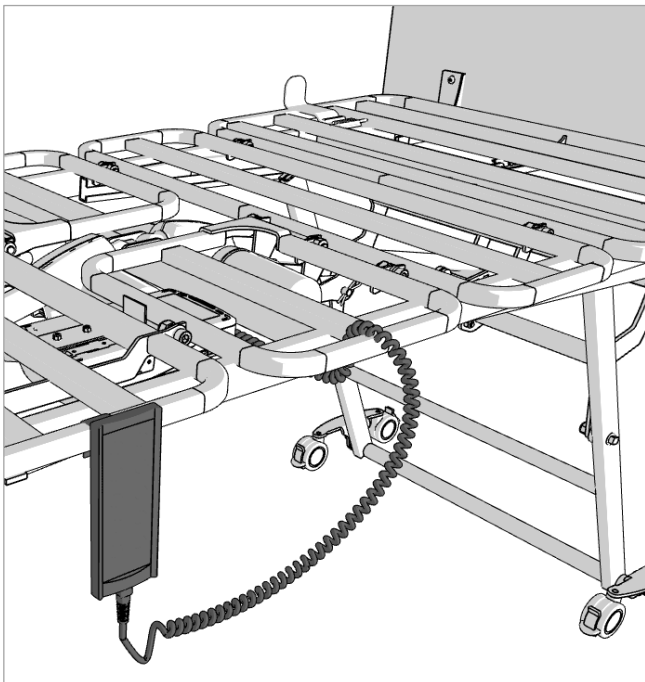

Figure 8.21
3. For routing on the Left hand side of the bed, the cable should be routed up and over the mattress platform. As show in Figure 8.21.